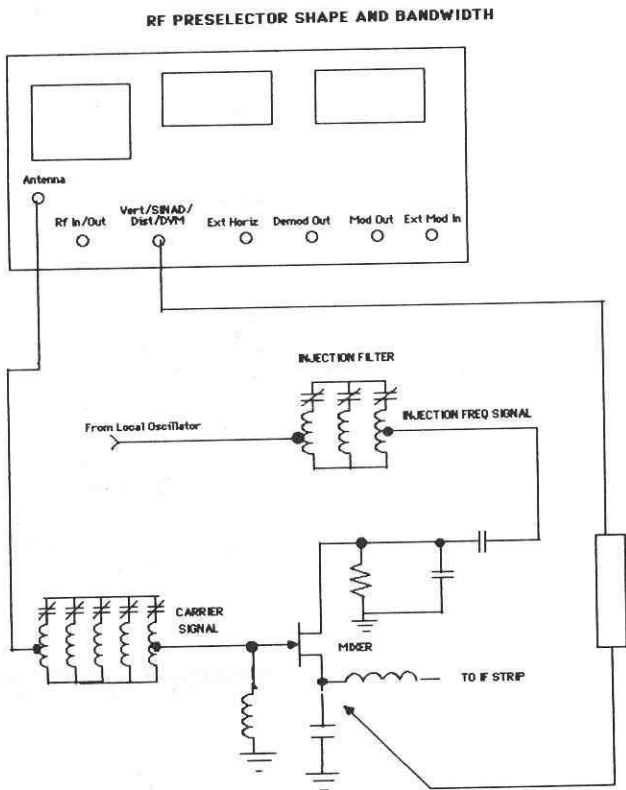

FIGURE 5.4—PROBE SETUP
1. Connect the service monitor's "Antenna" to the antenna connector of the receiver under test. Connect the "Vert/SINAD/Dist" port to the RF probe. Connect the probe to the first available low impedance point following the preselector, as shown in figure 5.4.